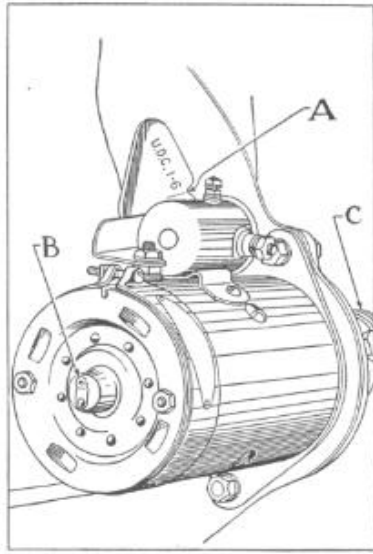

Figure 4
To determine this, remove the spark plug from number one (front) cylinder. Place the finger over the spark plug hole and crank the engine slowly, using the hand crank. Air pressure against the finger indicates that the piston is coming up on the compression stroke. After this is felt, continue cranking the engine slowly until the mark U. D. C. 1 and 6 is directly in line with the pointer on timing inspection hole in the rear support plate of the motor as indicated at (A), Figure 4. The piston is then at U. D. C. and ready to move downward on the power stroke.
The front bearing of the starting motor should be lubricated at (B), Figure 4, with a few drops of light oil every 1,000 miles. The Bendix drive assembly (C) should be flushed with kerosene every 2,000 miles.